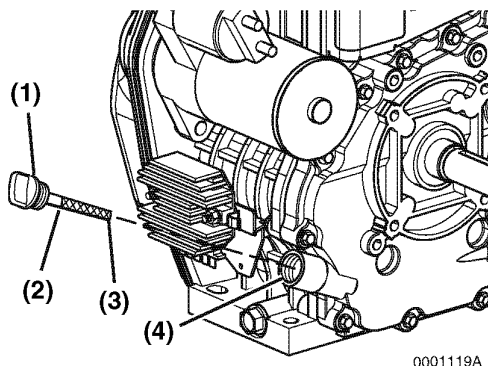

Figure 5-4
10. Add engine oil (**Figure 5-4, (4)**) as needed until the level is between the upper (**Figure 5-4, (2)**) and lower lines (**Figure 5-4, (3)**) on the oil cap / dipstick (**Figure 5-4, (1)**). **NOTICE: NEVER overfill the engine with engine oil. ALWAYS keep the oil level between the upper and lower lines on the oil cap / dipstick.**